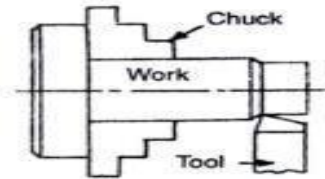

Fig. 4.9. Plain turning.
2. Plain turning. Refer Fig. 4.9.